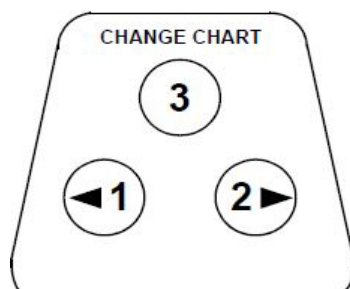

Figure 14. Chart Buttons
2. Press and hold the change chart button (#3 in *Figure 14*) for approximately one second. The pen will move off the scale.
3. Compare the recorder temperature to the solution temperature. If necessary, adjust the recorder by pressing the left and right chart buttons (#1 and #2 from *Figure 14*) for approximately 5 seconds.